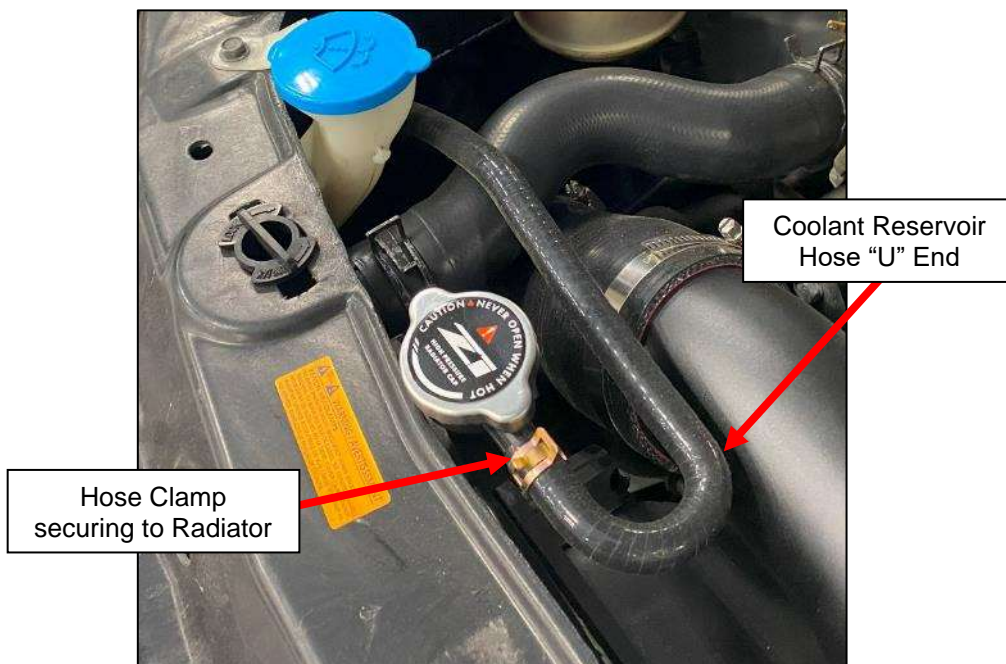

Figure 73
20. Locate the G35 Coolant Reservoir Hose (#84) and (1) one Hose Clamp (#31). Install the Hose Clamp onto the “U” shaped end of the Coolant Reservoir Hose.
21. Install the “U” shaped end of the Coolant Reservoir Hose onto the port from the Radiator. Secure with the Hose Clamp. *Figure 73*.